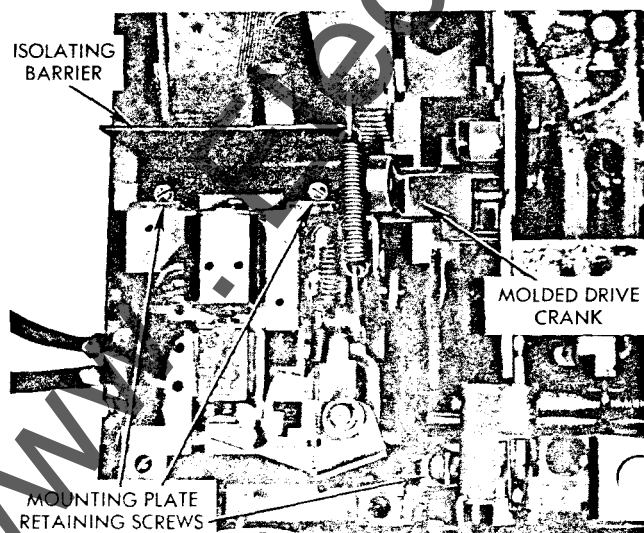

Fig. 12
2. Remove three (3) mounting plate retaining screws and isolation barrier, see Fig. 12.
3. Lift out accessory mounting plate and remove molded drive crank. (Fig. 12).
3. Place mounting plate in position so that its two (2) operating studs engage the molded drive crank, see Fig. 12.
4. Position isolating barrier between mounting plate and crossbar, see Fig. 12.
5. Replace three (3) retaining screws, see Fig. 12 and torque to 20 inch pounds (2 small screws) and 75 inch pounds (large screw).